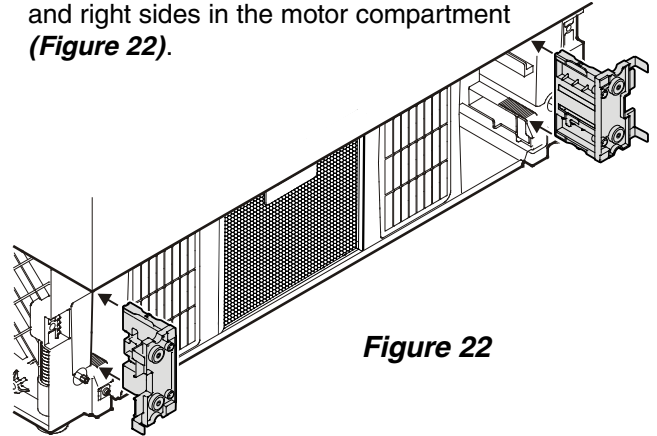

Figure 22
4. Insert the supports for the ventilation grille on the left and right sides in the motor compartment (**Figure 22**).